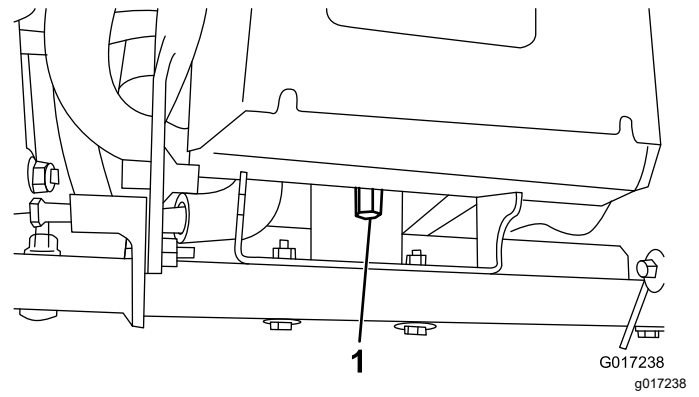

Figure 3
3. Remove the tall nut that secures the rear of the battery platform to the machine frame (Figure 3).